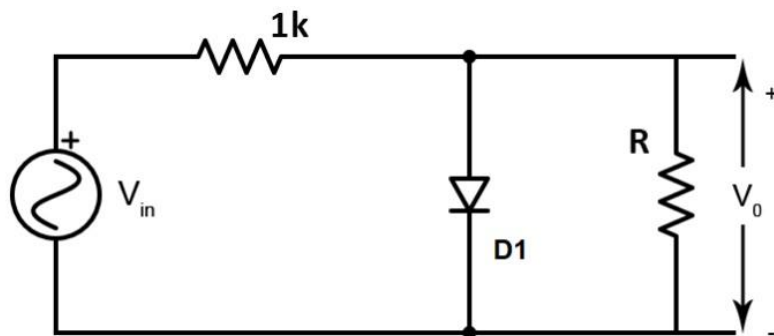

Figure 9: Simple Diode Circuit
- I. Build the circuit shown in Figure 9 on the breadboard with  $R=1\text{ k}\Omega$ . Use the IN4007 diode.
Table 1: Measured  $V_o$  for circuit in Figure 9